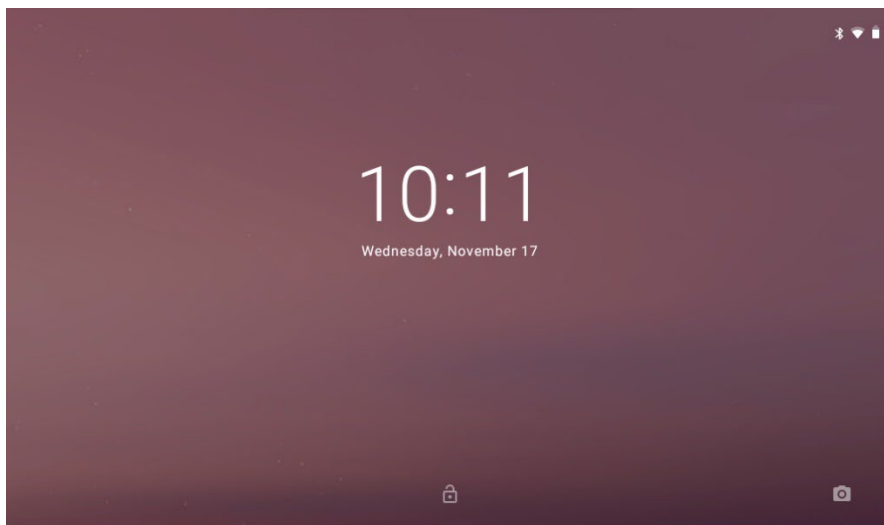
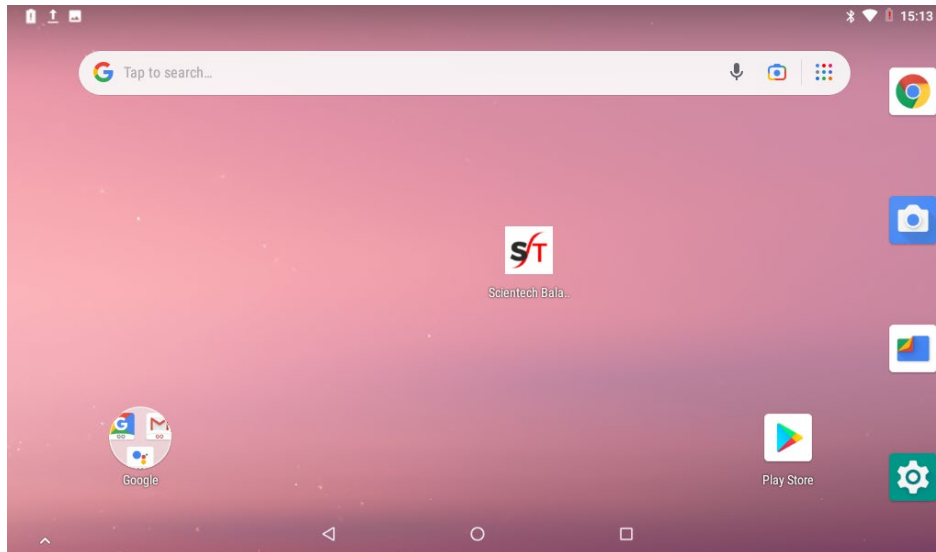
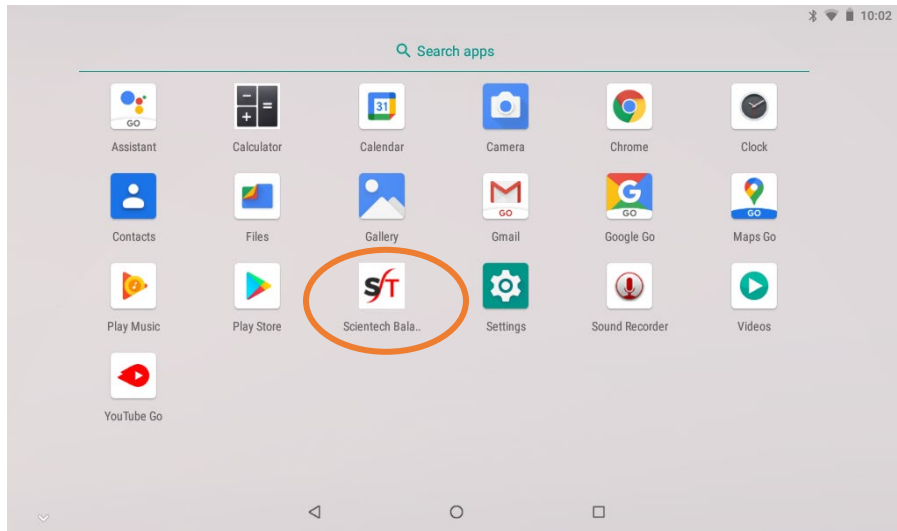

Figure 5. Android OS Sleep Screen
Figure 6. Android Home Screen
Figure 8. Android Screen Showing Application Menu
1. To turn on the control module and launch the Android operating system, press and hold the control module switch for **3 to 4** seconds to boot up the Android operated control module. The Android operating system will require about 30 seconds to complete the boot process. The Figure 5 Android sleep screen will appear at the end of the Android boot process.
2. Once the Figure 5 screen appears swipe up on the display to open the Android home screen shown in Figure 6.
5. Once the Figure 6 Android home screen opens, the Scientech balance application may also be opened by swiping up on the display to open the apps screen shown in Figure 8 and selecting the Scientech  balance app.